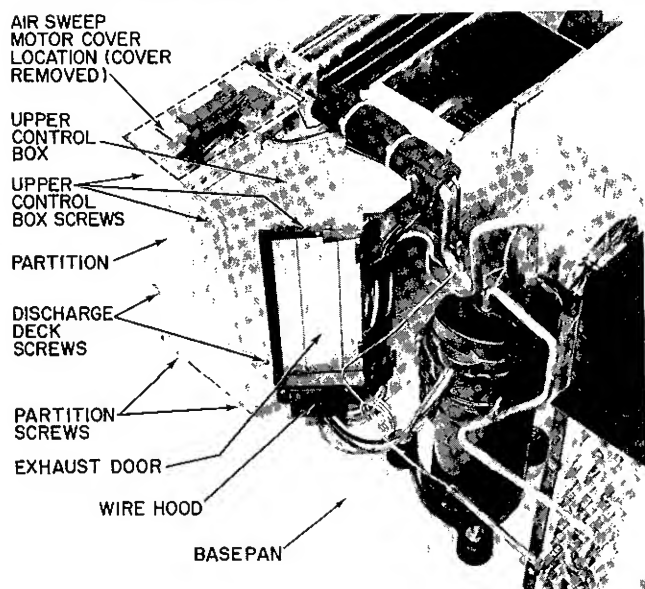

Fig. 30 — Exhaust Door
34 Exhaust Door — See location of Exhaust Door in Fig 30
- e Remove 3 screws (Fig 30) securing upper control box to partition
- f Remove 2 screws (Fig 30) securing discharge deck to partition
- h Remove 3 screws (Fig 30 and 33) securing partition to basepan
- c Remove motor cover by removing 2 screws See Fig. 30